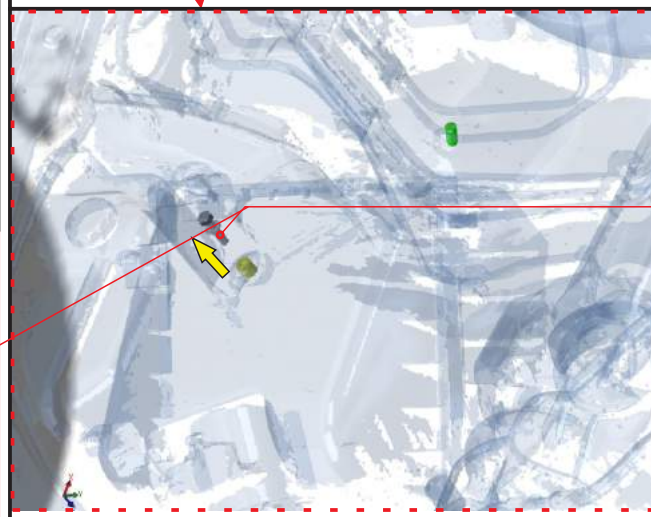

FIG. 8C OEM AIR BOX BOLT REMOVAL
4. Remove the rear airbox mounting OEM bolt & washer shown in FIG. 8C.